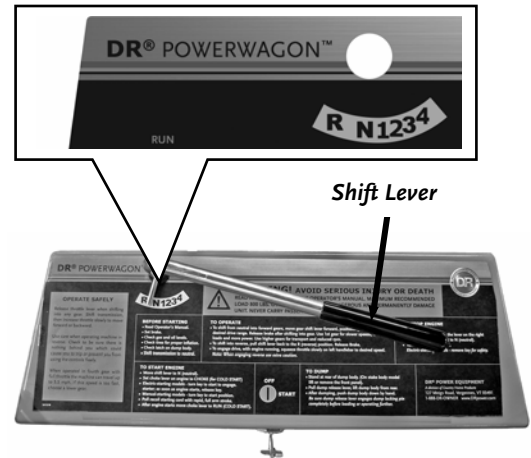

Figure 26
1. Move the Shift Lever (**Figure 26**) into the Reverse position.